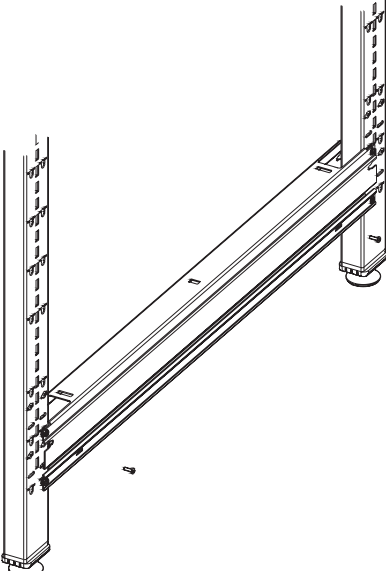

Figure2
- D. Secure the channel in place with the provided screws through the slots in the horizontal channel (see Figure 2).